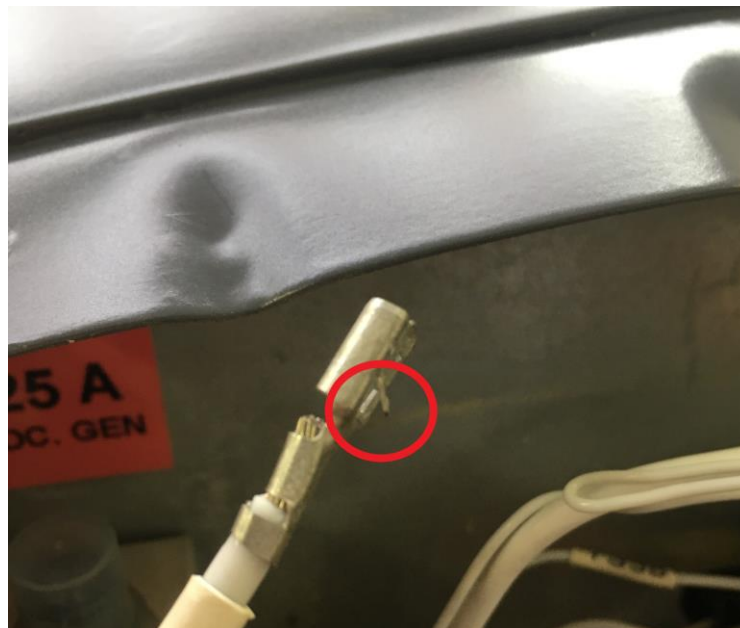

Fig. 24: locking pawl
22) Return the wire to which the 109B was connected to the original socket, but first return the locking pawl to the correct position (See Fig. 24)